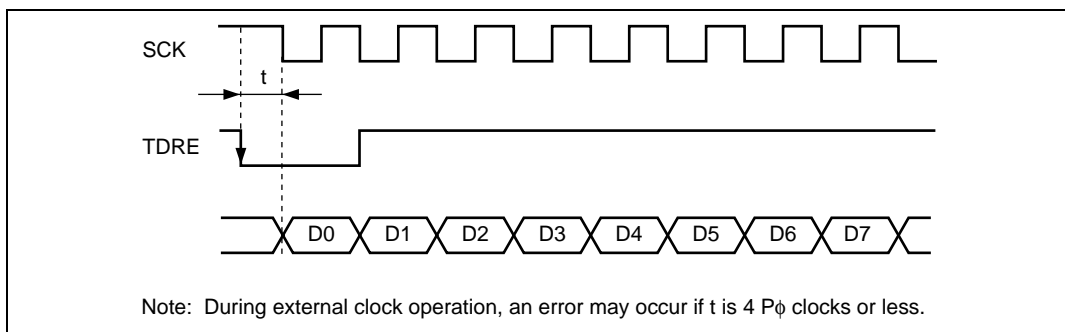

Figure 12.21 Example of Clocked Synchronous Transmission with DTC
1. When using an external clock source for the serial clock, update TDR with the DTC, and then after the elapse of five peripheral clocks ($P\phi$) or more, input a transmit clock. If a transmit clock is input in the first four $P\phi$ clocks after TDR is written, an error may occur (figure 12.21).